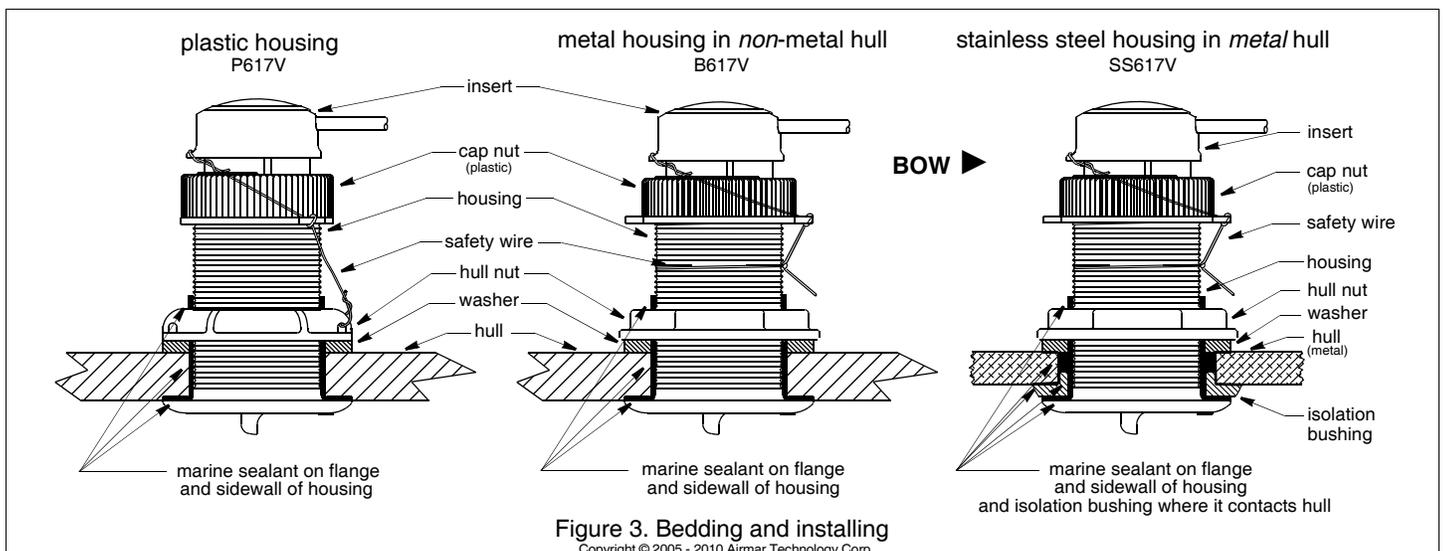

Figure 3. Bedding and installing
- Remove the insert from the housing by removing the safety wire and unscrewing the cap nut (Figure 3). This will jack up the insert. Remove the insert with a slow pulling motion. Replace it by sliding the blanking plug into the housing.